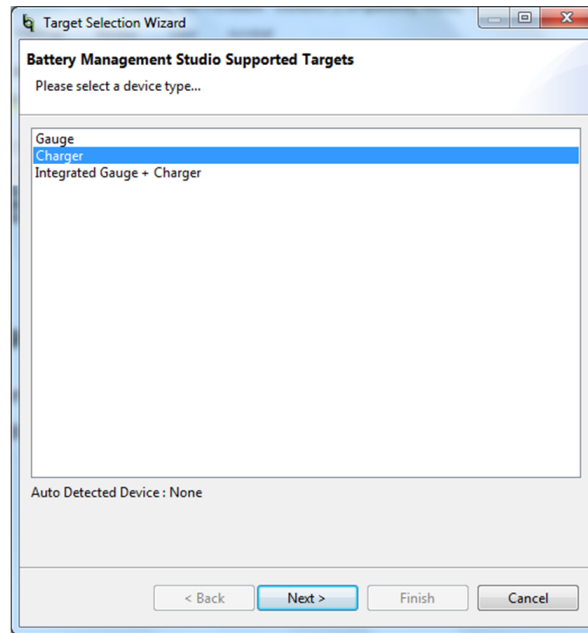
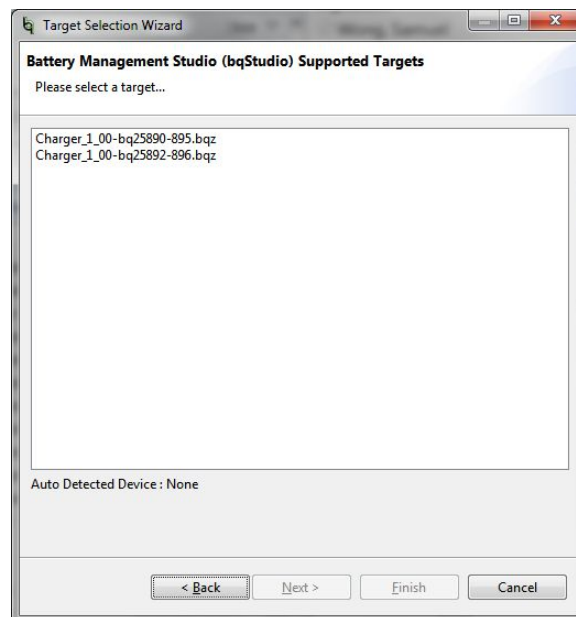

Figure 4. Start Window of the bq2589x Evaluation Software
Figure 5. Part Select Window of the bq2589x Evaluation Software
- Turn on the computer. Launch the bq2589x evaluation software, choose *Charger* as shown in Figure 4, then choose the appropriate .bqz file as shown in Figure 5.
Figure 5 illustrates the following part selection options: